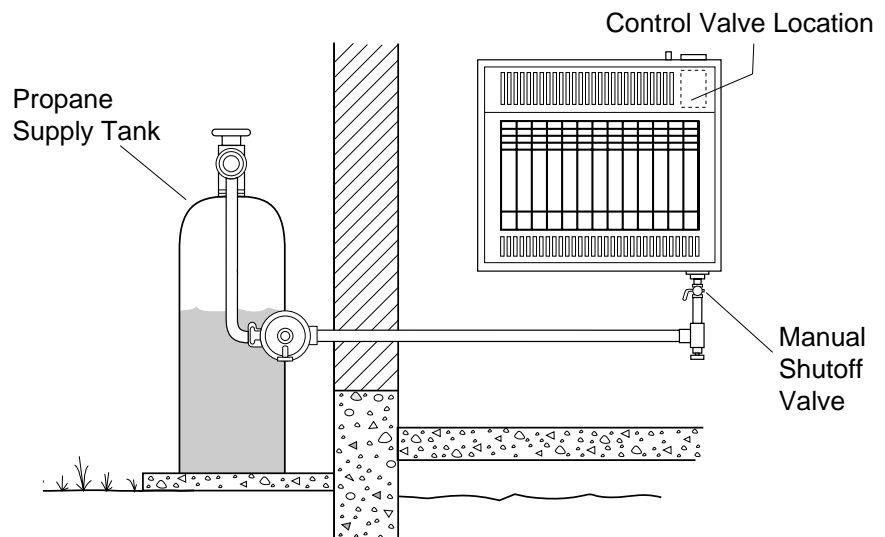

Figure 15 - Checking Gas Joints
4. Check all joints from manual shutoff valve to control valve (see Figure 15). Apply mixture of liquid soap and water to gas joints. Bubbles forming show a leak.